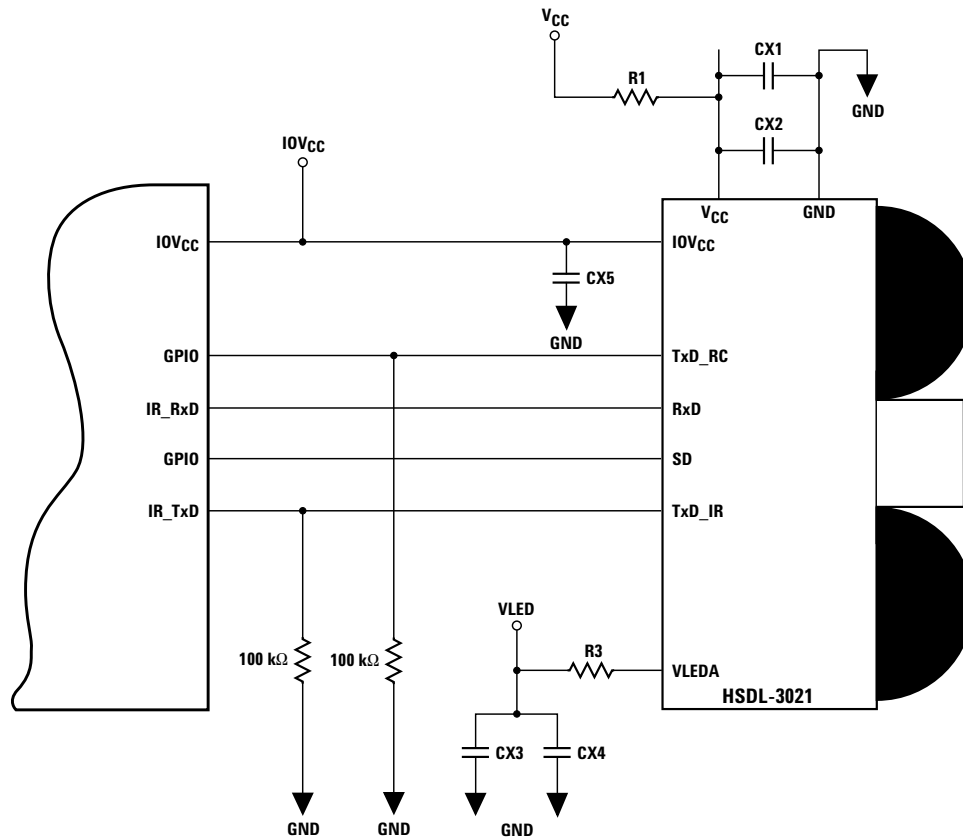

Figure 3: HSDL-3021 configuration with general mobile architecture processor.
*Detailed configuration of HSDL-3021 with the controller chip is shown in Figure 3.
the software is required to resolve this issue to prevent the mixing and corruption of data while being transmitted over the free air. The above Figure 3 illustrates a reference interfacing to implement both IR and RC functionality with HSDL-3021.